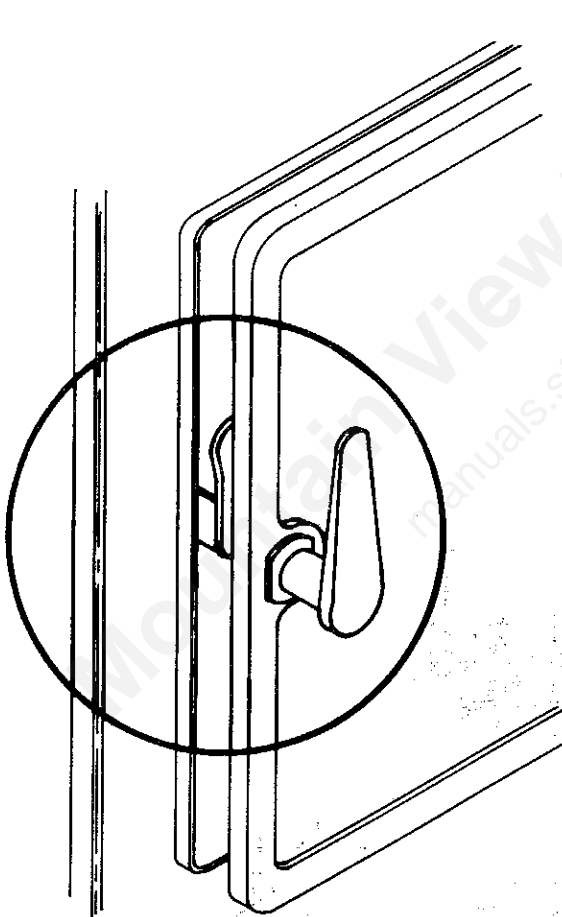

FIG. 14
2. Turn handle clockwise to the 12 o'clock position, pull the door open until you engage the second step. (Fig. 14).